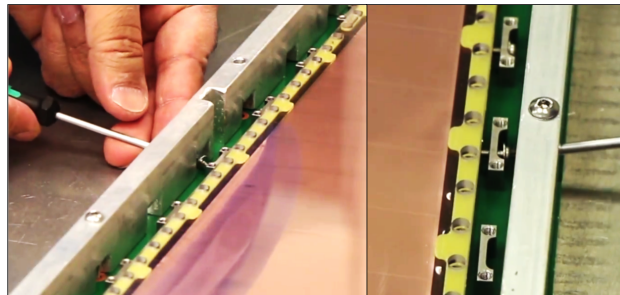

Figure 100: Stretching of the foils (1).
Step 2: Insert the M2.5x8 mm screws in the lateral holes of the aluminum bars, starting with the large and the small base of the trapezoid (Fig. 100).